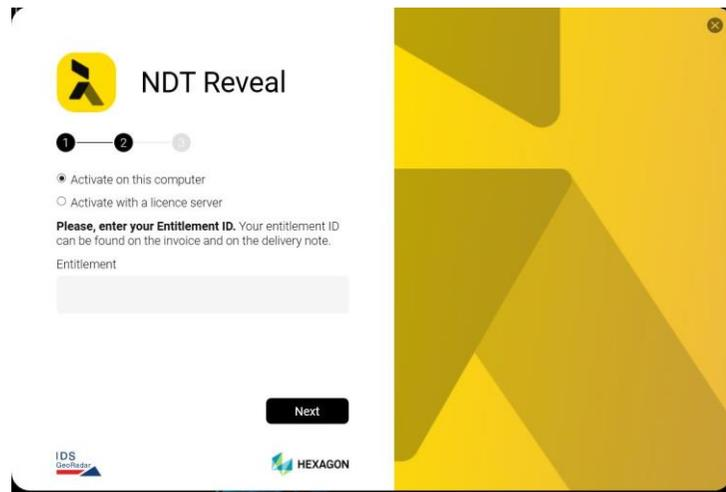

Fig. 10 Enter the EID
10. Enter the EID in the field named "Entitlement" (Fig. 10),